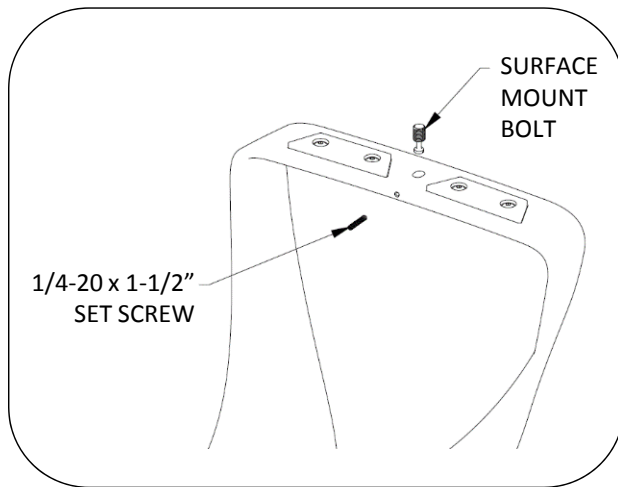

Fig. 4 – install surface mount bolt
1. Turn unit upside down on protective padding. Install surface mount bolts as shown in Fig. 4.